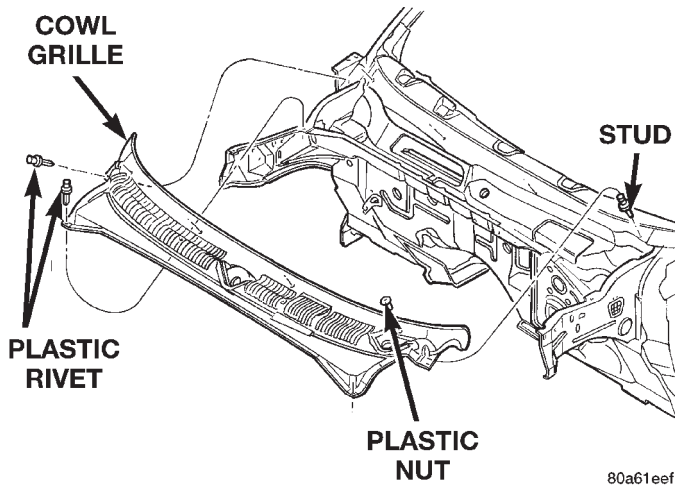

Fig. 9 Cowl Grille
- (1) Open hood.
- (2) Mark wiper arm locations on windshield with grease pencil.
- (3) Lift cover for wiper arms and remove nuts attaching wiper arms to cowl.
- (4) Remove upper plastic nuts attaching cowl grille to cowl (Fig. 9).
- (5) Insert a small flat blade into the slots of the plastic rivet anchors in each cowl grille corner. Lift up on the flat blade to release the rivet anchors.
- (6) Remove cowl weatherstrip.
- (7) Disconnect and plug windshield washer feed line from cowl.
- (8) Disconnect vacuum line from cowl.
- (9) Separate cowl grille from cowl.